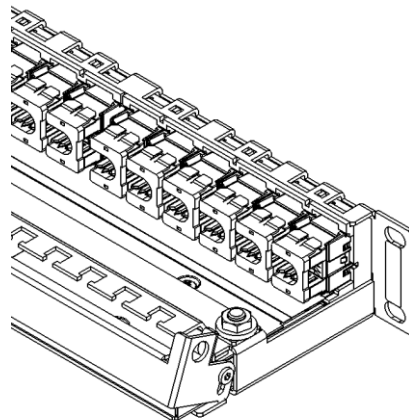

Fig.11
1. Lift locking bar up and rotate locking bar toward the front of the panel to disengage the E-module from the panel (see Fig. 11)